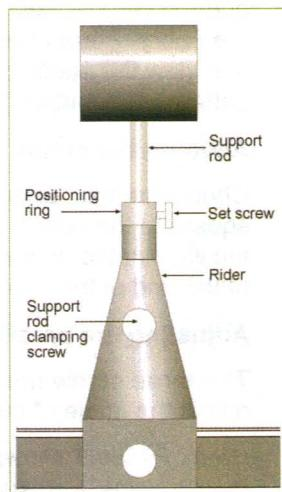

Figure 6
- Carefully adjust the heights of the lens/polarization filter, interference filter, and CCD camera so that their centers are aligned with the center of the mercury lamp and clamp them in place. Fix the adjusted heights with the positioning rings on the support rods (see *Figure 6*). This allows the optical elements to be easily removed and replaced accurately.